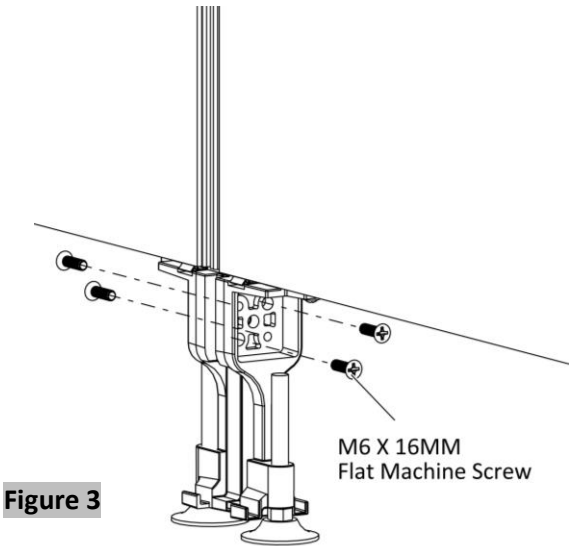

Figure 3
- Securely fasten the panel legs with four M6 X 16MM Flat Machine Screws, (Figure 3).